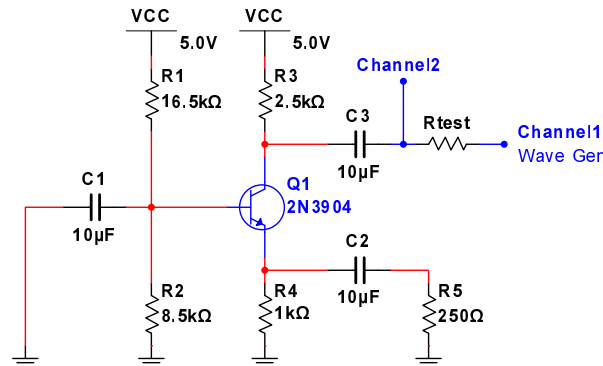

Figure 27: Amplifier setup for output resistance measurement
- Insert a test resistor (R_{test}) that is close to the calculated value of the output resistance R_o as in Fig. 27
- Connect Channel 1, Channel 2 and Wave Gen as shown in Fig. 27